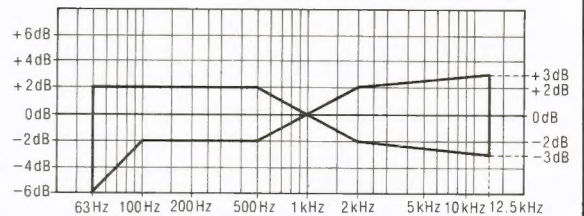
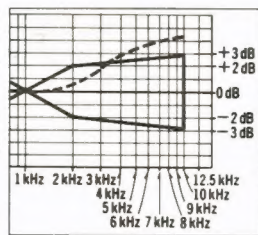
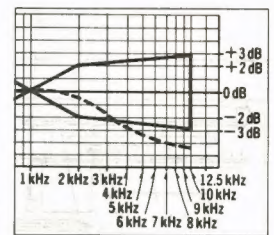

Fig. 10
Fig. 12
Fig. 13
6. Playback the signals recorded in step 6, and check if the frequency response curve is within the limits shown in the overall frequency response chart for normal tapes (fig. 10). (If the curve is within the charted specifications, proceed to steps 7, 8 and 9.)
When the curve exceeds the overall specified frequency response chart (fig. 10) as shown in fig. 12.
- 2) Repeat steps 5 and 6 for confirmation (Proceed to steps 7, 8 and 9 if the curve is now within the charted specifications as shown fig. 10.)
- 3) If the curve still exceeds the specifications (fig. 10), increase bias current further and repeat steps 5 and 6.
When the curve falls below the overall specified frequency response chart (fig. 10) as shown in fig. 13.
- 3) If the curve still falls below the charted specifications (fig. 10), reduce bias current further and repeat steps 5 and 6.